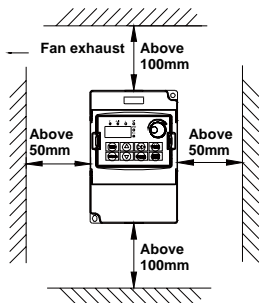

Fig. 3-1 Installation Spacing Diagram
- (1) Install vertically in general condition.
- (2) The installation spacing and the min. distance is as shown in Fig.3-1.